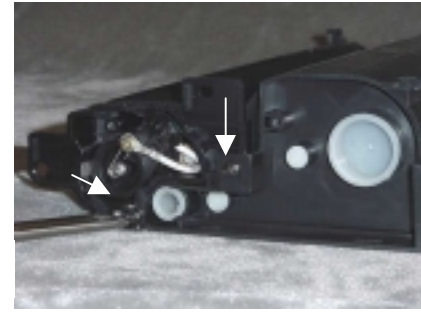

Fig. 5
5. Remove two screws that connect the developer section to the toner hopper shown in Figure 5.